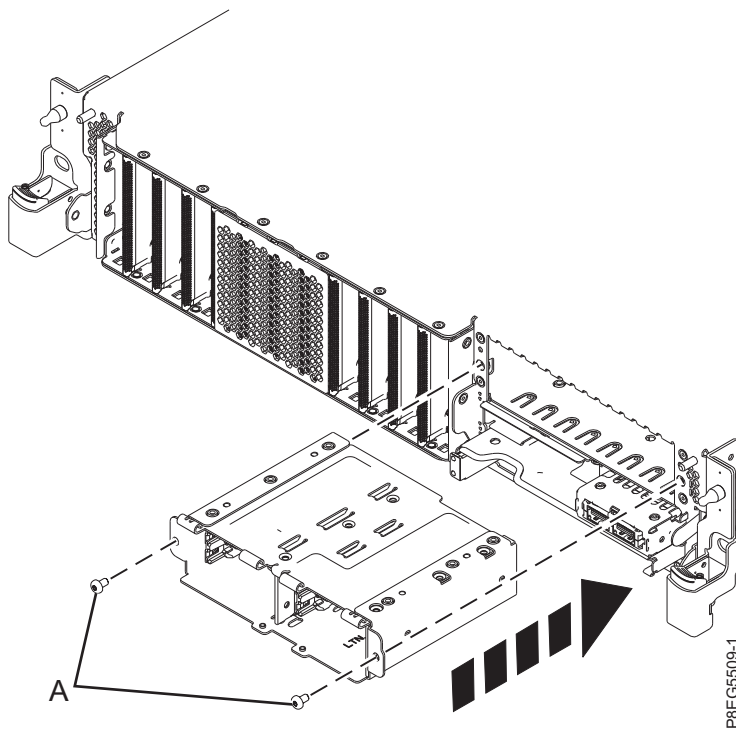

Figure 23. Reinstall SSD cage
4. Slide the SSD cage back into position. Install and tighten screws (A). See Figure 23.